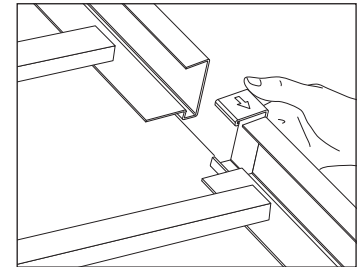

Fig. 4 – Connector units
- 5 Where necessary, a connector unit is fitted at joints between extrusions (Fig. 4).